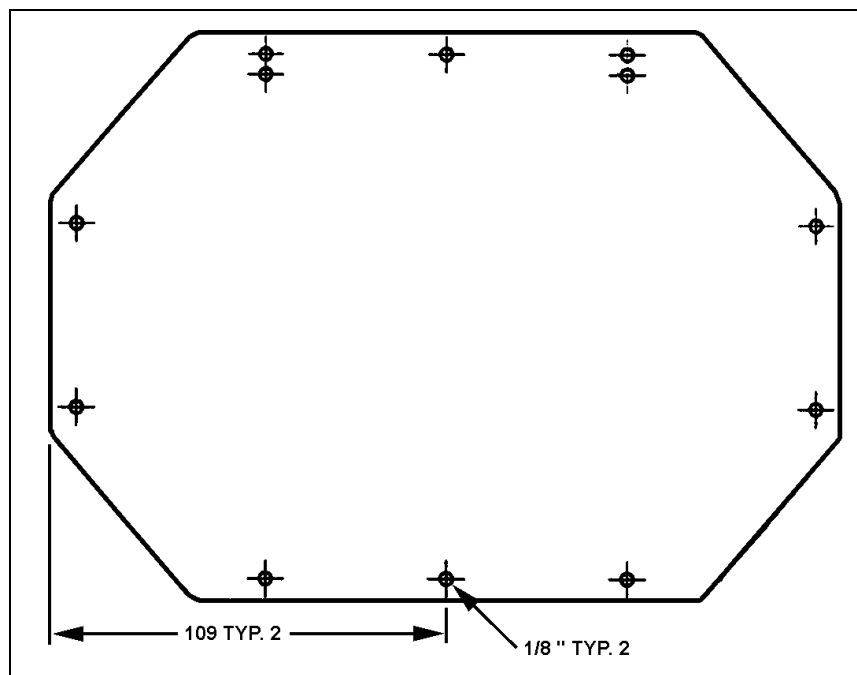
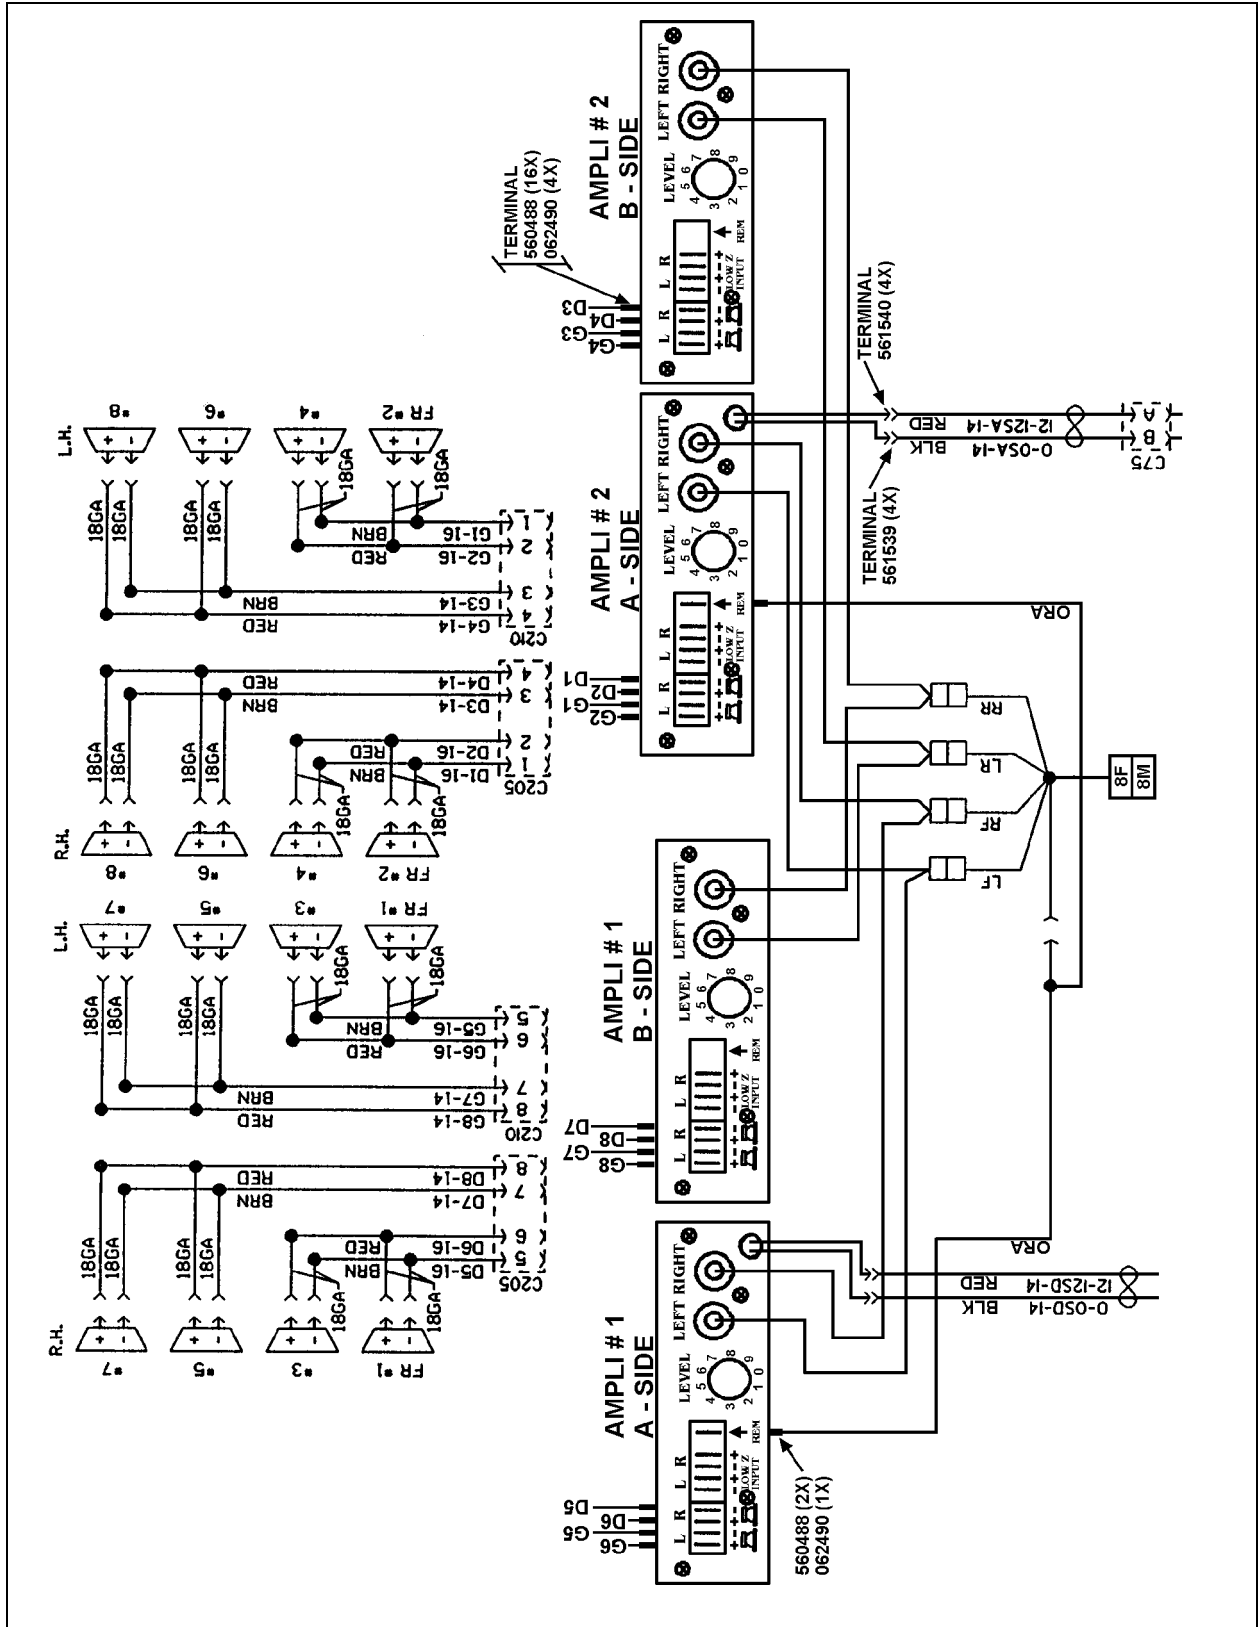

FIGURE 8: AMPLIFIER MOUNTING PLATE
FIGURE 10: AMPLIFIER INSTALLATION WIRING DIAGRAM
Note: Refer to figure 10 for wiring diagram of amplifiers installation.
10. Reinstall amplifier in compartment with existing screws, drill new holes on wall to reinstall amplifier if necessary. Connect wiring and cables on amplifier as shown on figure 10.
10. Drill two extra holes inside amplifier mounting plate (refer to figure 8) for the installation of RCF amplifier. Install amplifier mounting plate (Prévost #404517) in compartment with binding screws, secure amplifier to plate and connect wiring as shown on figure 10.
11. Drill two extra holes inside amplifier mounting plate (refer to figure 8) for the installation of RCF amplifier. Reinstall amplifier in compartment with existing bolts, drill new holes on frame support to reinstall mounting brackets if necessary. Connect wiring and cables on amplifier as shown on figure 10.